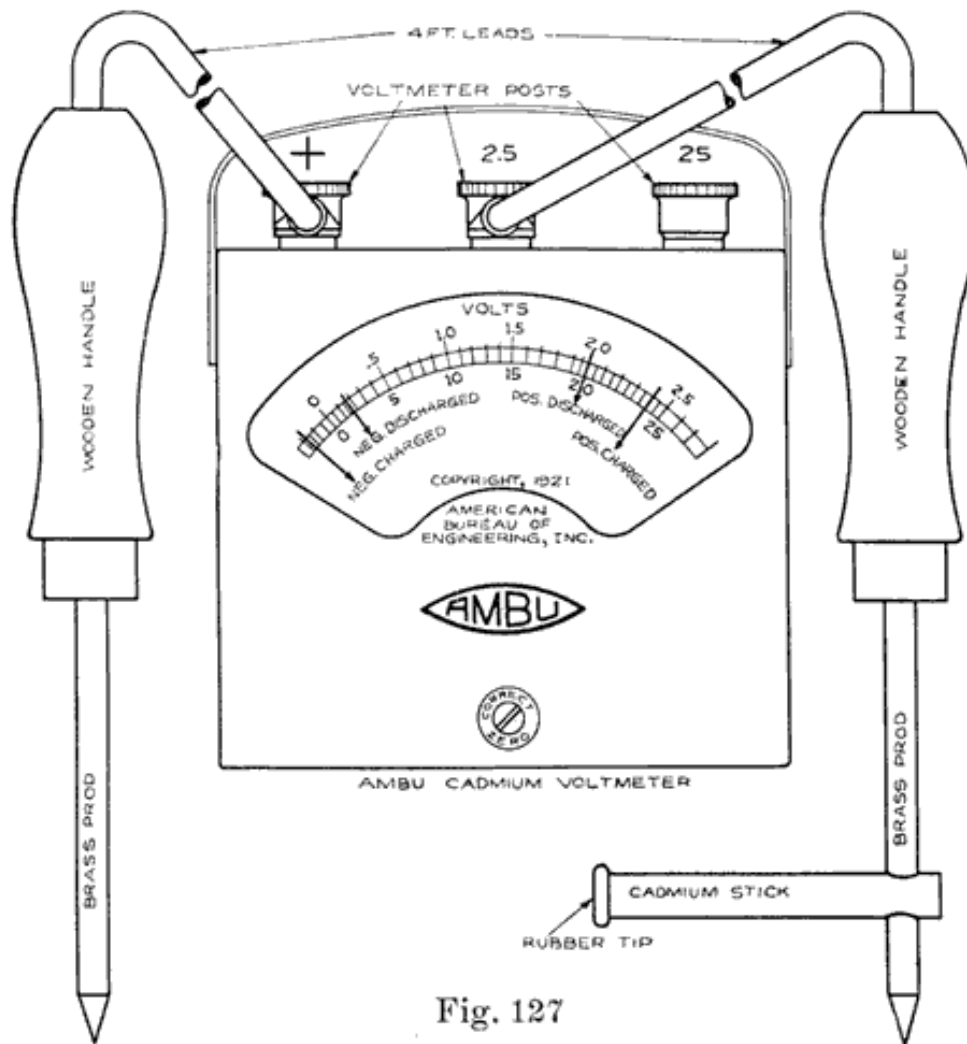

Fig. 127
**Connections of Cadmium Leads:** In making Cadmium Tests, connect the prod which has the cadmium fastened to it to the negative voltmeter binding post. Connect the plain brass prod to the positive voltmeter binding post. The connections to the AMBU Cadmium Voltmeter are shown in Fig. 127.